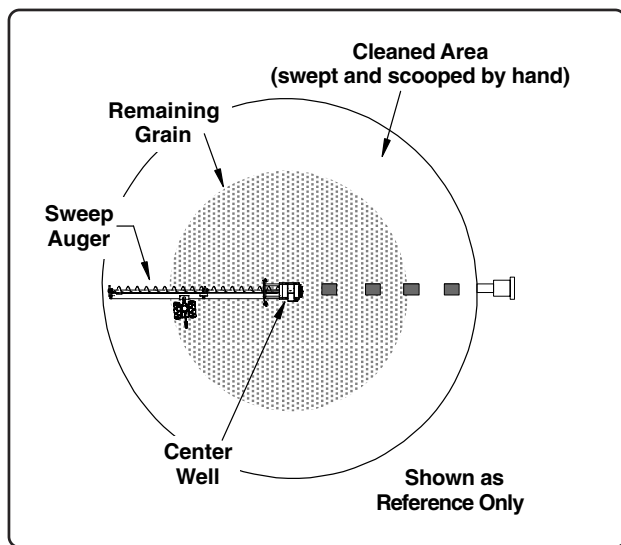

Fig. 1
1. With the power source shut down and locked out, clean (scoop and sweep by hand) the outer area of the floor into a circular pile towards the center of the bin (See Fig. 1).